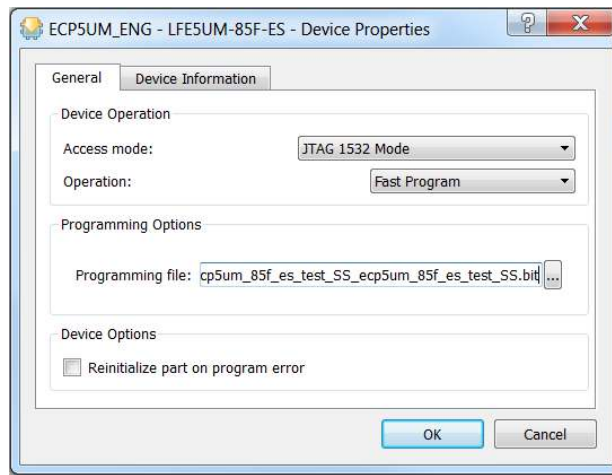

Figure 5.6. Programming Options
4. Select the appropriate programming file by clicking the **Browse** button  in the **Programming Options** section as shown in Figure 5.6.